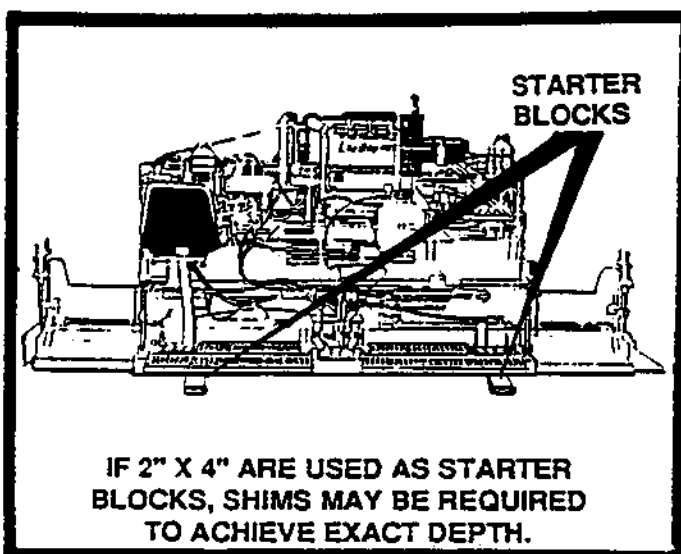

FIGURE 19
5. Place wood blocks under the screed as shown in figure 19. These blocks should be slightly thicker (1/4 inch) than the finished (compacted) mat, to allow for reduction in thickness after rolling.